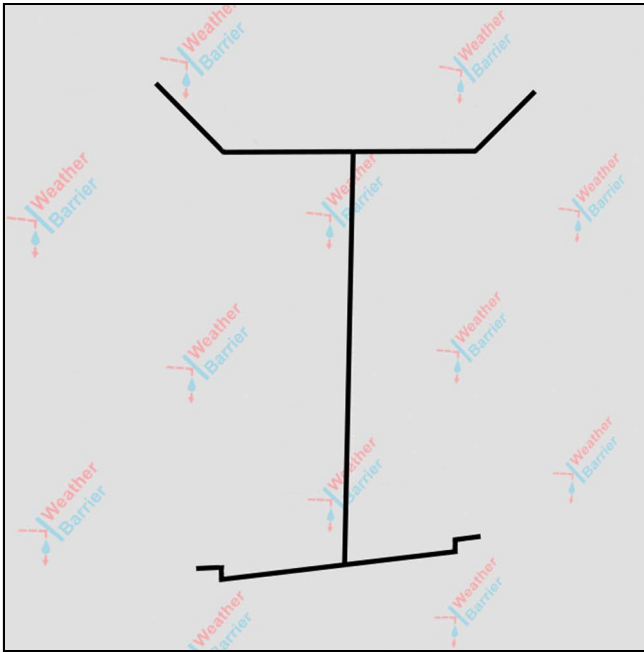

Figure 16
1. Make horizontal cuts to the Weather Resistive Barrier (WRB) across the top and bottom of the Rough Opening. Make a vertical cut down the center of the RO, then make 45 degree cuts away from the corners of the top of the RO. See Figure 16.